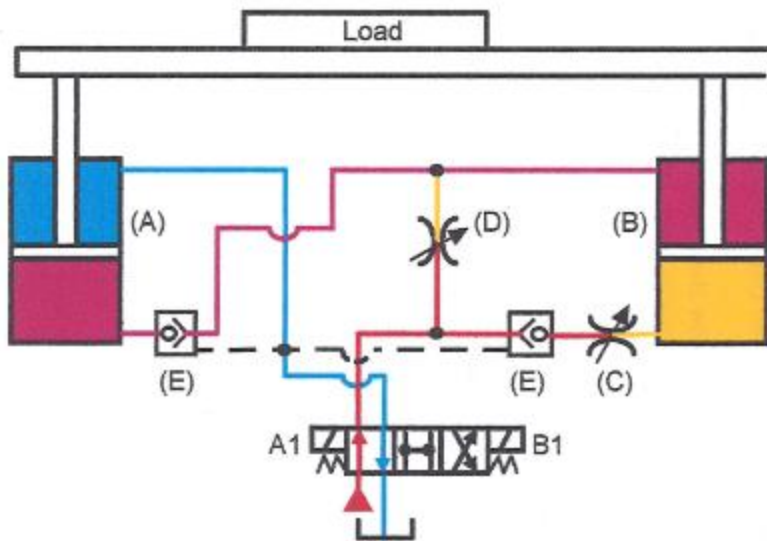

Figure 22-13. Alternative cylinder in series flow synchronizing circuit using single-rod end cylinders. Solenoid A1 energized, cylinders extending.
Figures 22-13 through 14 show how to attain reasonable synchronization with a set of equalizing flow controls on single-rod end cylinders in series. The cylinders are extending in Figure 22-13. Oil from the directional valve goes through needle valve (C) to the cap end of cylinder (B), thus controlling its speed. At the same time, some bleed oil from the directional valve goes through needle valve (D) to the cap end of cylinder (A). Set needle valve (D) to make up for lower oil volume as it transfers from the rod end of cylinder (B) to the cap end of cylinder (A). Without needle valve (D), cylinder (A) would lag every cycle and be out of synchronization. Changing flow at needle valve (C) means readjusting needle valve (D) also. Both needle valves work best if they are pressure compensated. This is a problem in this circuit because there is bi-directional flow. Refer to Chapter 10, Figure 10-4 to see a pressure-compensated needle valve piped for bi-directional flow.